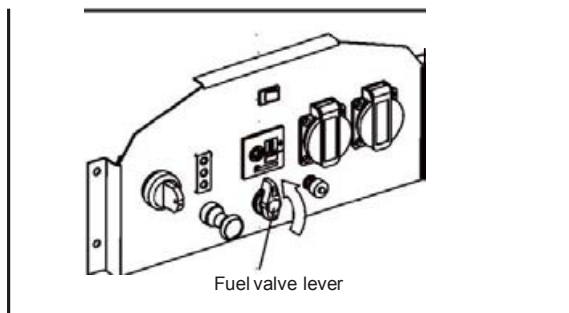

Fig.6
4.1 Turn the fuel valve lever to the ON position, see fig.6.